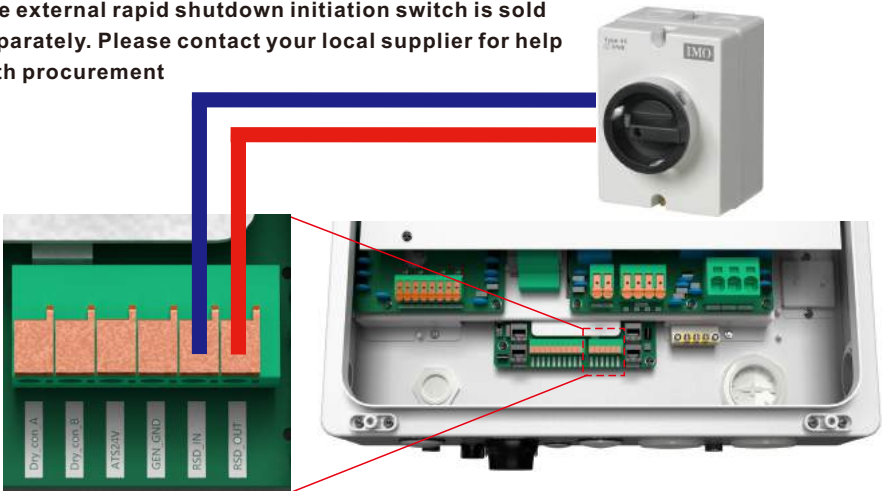

Figure 4.14 External RSD Initiation Switch
2. Remove the red jumper from the RSD_IN and RSD_OUT terminals (see Figure 4.14)
1. Disable the internal transmitter by removing the red jumper (see Figure 4.14)